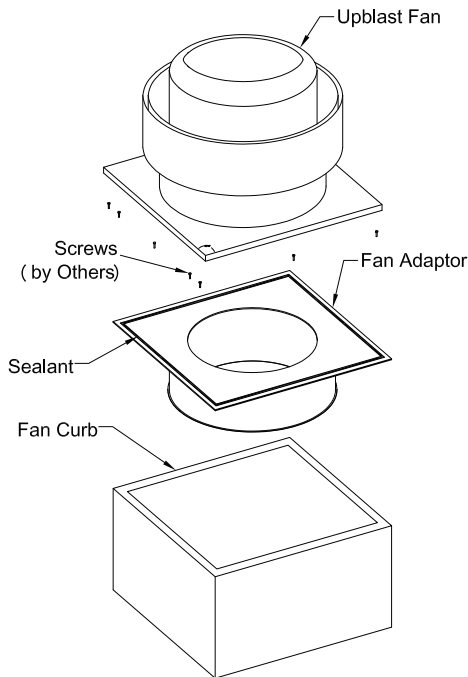

Figure 117: Fan Adapter
2. When connected to an up blast fan, the plate mounts on top of the fan curb which supports the fan housing. **See Figure 117.**
5. Secure the plate to the curb a minimum of three (3) places per side with minimum #8 x 1-1/4" wood screws. You will have to drill holes in the plate.